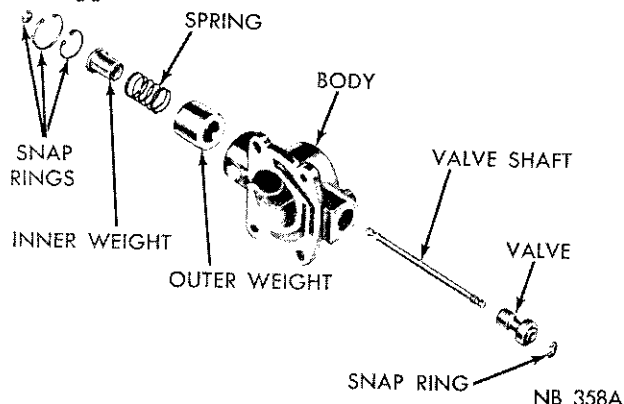

Fig. 26—Governor Assembly
(3) Remove large snap ring from weight end of governor body, lift out governor weight assembly.
(4) Remove snap ring from inside governor weight, remove inner weight and spring from outer weight. Figure 26 shows a disassembled view of the governor assembly.
(5) Remove snap ring from behind governor body, then slide body and support assembly off the output shaft. If necessary, remove four bolts and separate governor from the support.